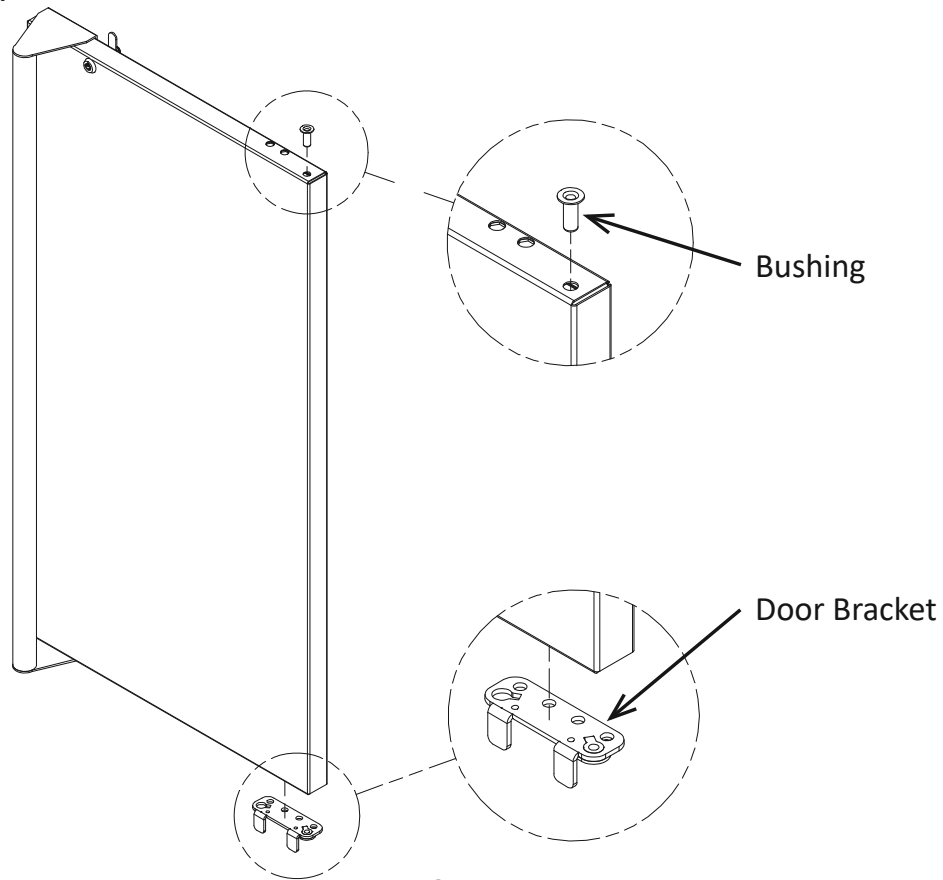

FIG. 6
Step 4. Remove the Bushing and the Door Bracket from the door. See figure 6.